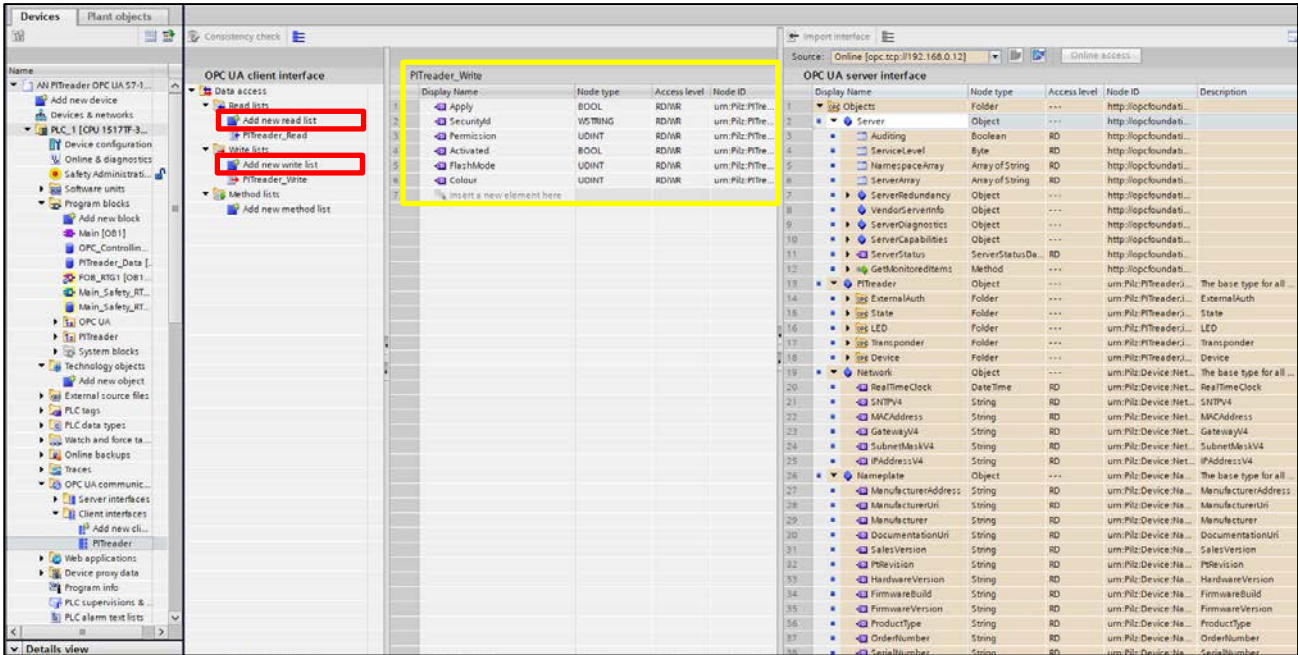

Figure 18: Creating a read and write list in the TIA Portal
1. Create a new read list and a new write list in the TIA Portal by double-clicking on "Add new read list" and "Add new write list" (Figure 18 red square).
2. Variables with read access can be added to the read list you created. Variables with read and write access can be added to both the read and write list (Figure 18 yellow square). The variables are added to the read and write list via drag & drop.